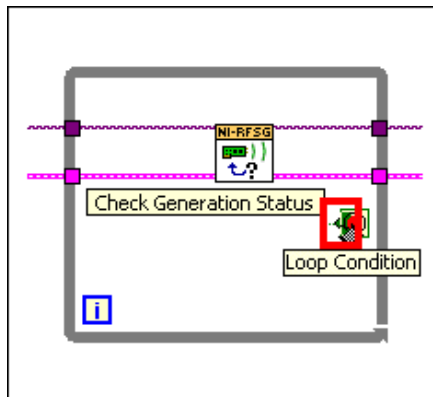

Figure 6. Loop Condition Terminal on While Loop
4. Hover the mouse tool over the **Loop Condition** terminal of the While Loop. The terminal is highlighted in Figure 6 below.